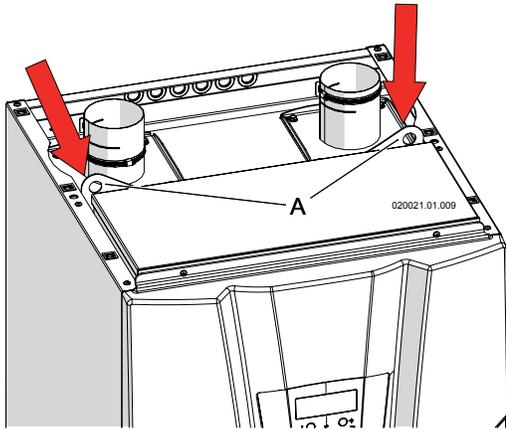

Figure 6-3 Install eyebolt to lift the appliance
4. Access to the uplift brackett "A" (Figure 6-3) on the upper side of the heater (see Figure 6-3);